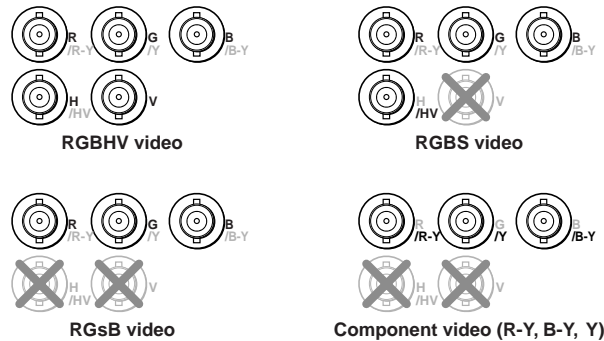

Figure 2-3 — Input 2 connections for RGBHV, RGBS, RGsB and component video
- ① **Input 1 (computer video) input (top) connector** — Connect computer or RGB video to this female 15HD connector.
- ② **Input 1 (computer video) loop-through (bottom) connector** — Connect a local monitor to this female 15HD connector. The scaler buffers the computer video input and loops it on this connector.
- ③ **Input 2 (RGB or component video) connectors** — Connect RGBHV, RGBS, RGsB, or component video (R-Y, Y, B-Y for YUVi or YUVp, or Betacam) to these female BNC connectors (figure 2-3).